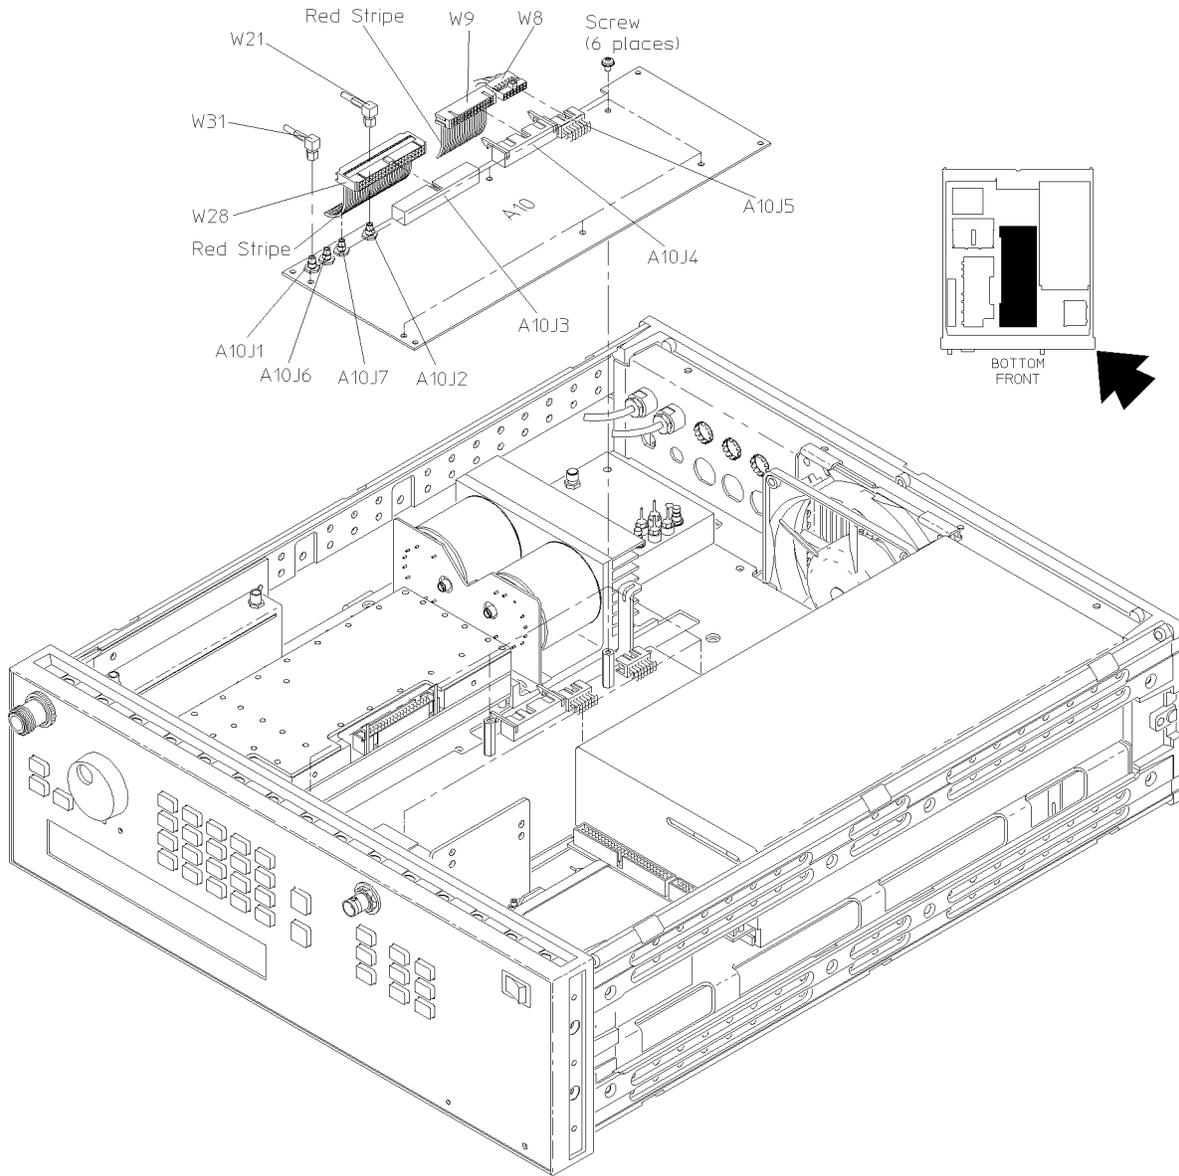

Figure 5-19. ALC Board Removal
3. In the introduction to this chapter, refer to the procedure “Flexible Coaxial Cables” and Figure 5-19. Then, using a 15/64 open end wrench, disconnect the following cables:
4. Refer to “Multi-wire Cables” and Figure 5-19. Then, disconnect the following cables:
5. Using a size 10 TORX® screwdriver, remove the six screws connecting the A10 assembly to the standoffs and the A9 assembly. See Figure 5-19.